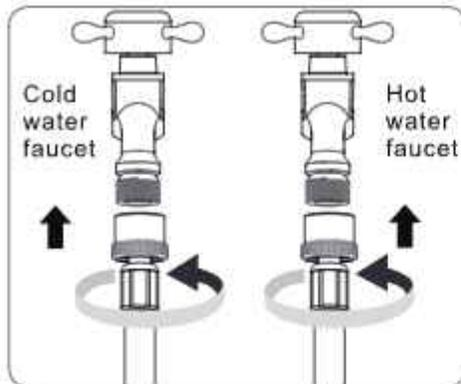

Fig.6
2. Place the brackets around the front feet (Fig.6).